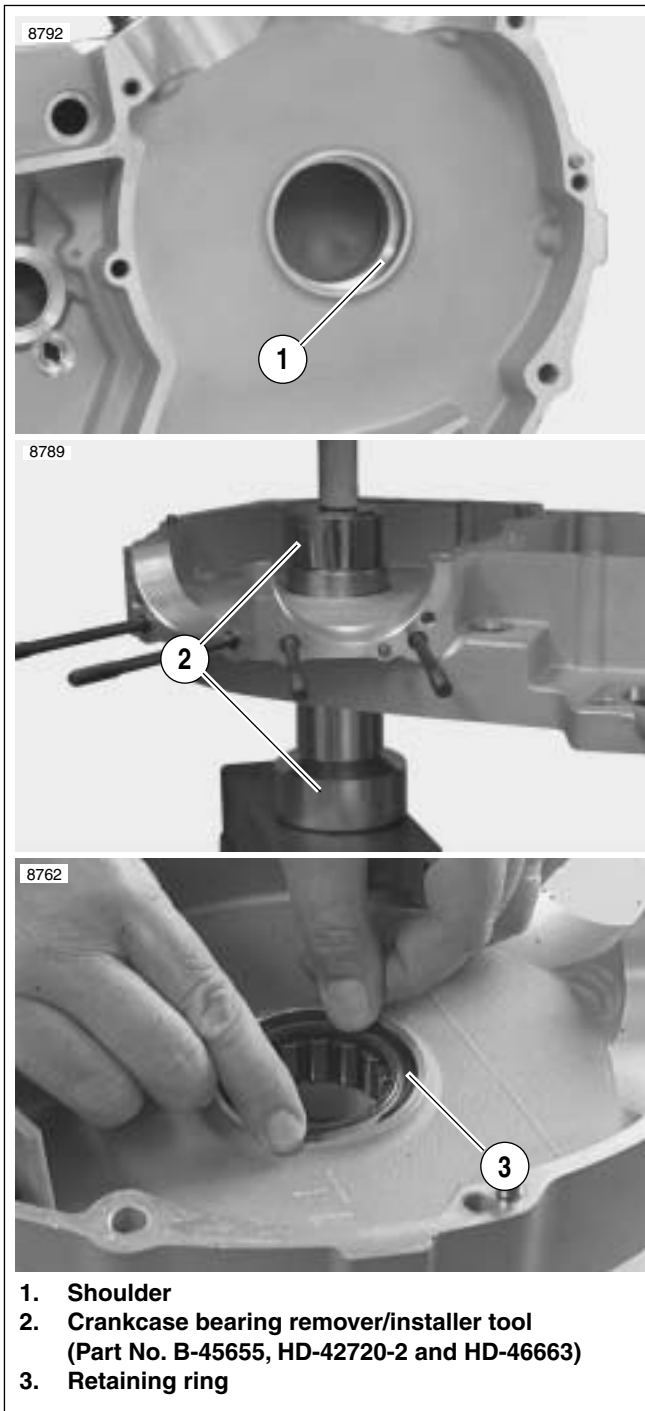

Figure 3-151. Sprocket Shaft Bearing Installation
1. See Figure 3-151. Using CRANKCASE BEARING REMOVER/INSTALLER (Part No. B-45655, HD-42720-2